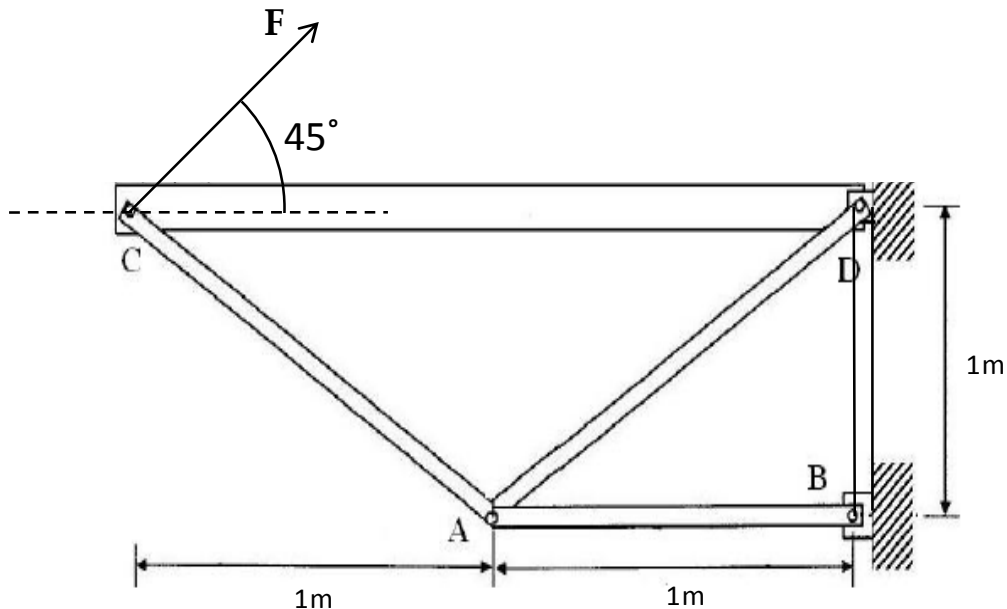

Figure Q5
- (c) A rigid beam is supported by a truss pin-jointed structure, as shown in Figure Q5. It is subjected to a point force of magnitude F with direction orientated at 45° to the horizontal plane as shown.